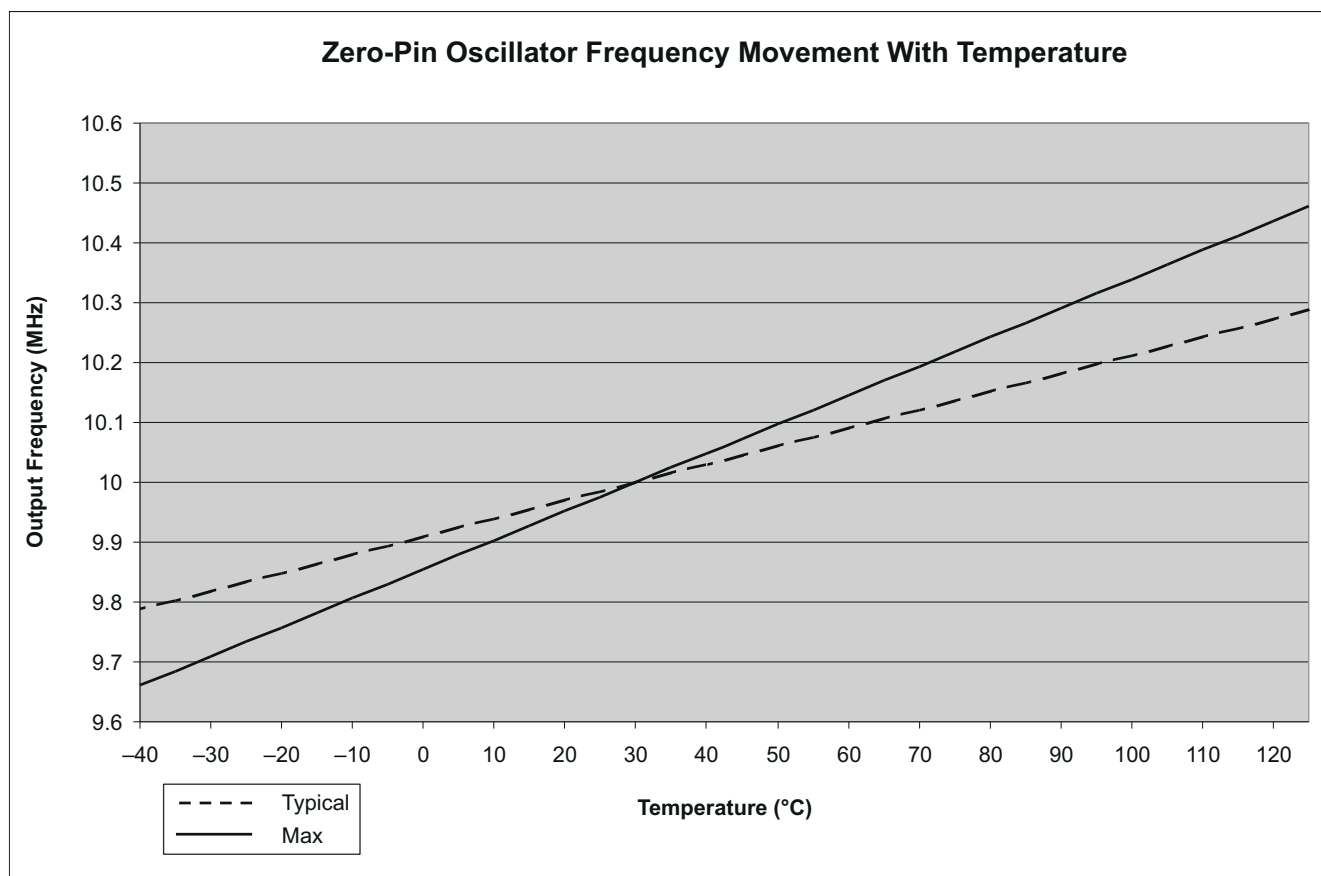

Figure 7-9. Zero-Pin Oscillator Frequency Movement With Temperature
- (1) Oscillator frequency will vary over temperature, see Figure 7-9. To compensate for oscillator temperature drift, see the Oscillator Compensation Guide and C2000Ware for C2000 MCUs.
- (2) Frequency range is ensured only when VREG is enabled, $\overline{\text{VREGEN}} = \text{V}_{\text{SS}}$.
- (3) Output frequency of the internal oscillators follows the direction of both the temperature gradient and voltage (V_{DD}) gradient. For example: